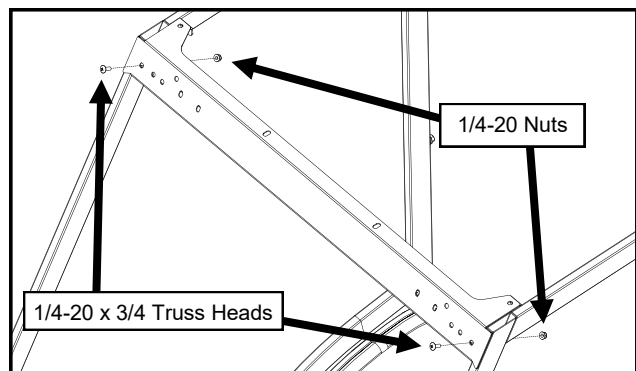

Fig. 7.1 (Windshield Support to Side Frame Fasteners)
7.1 With assistance, align sides and top of the windshield support with the side frames. Fasten the windshield support in place with a screw and lock nut through the front of each side frame. Fully tighten at this time. See Figure 7.1.